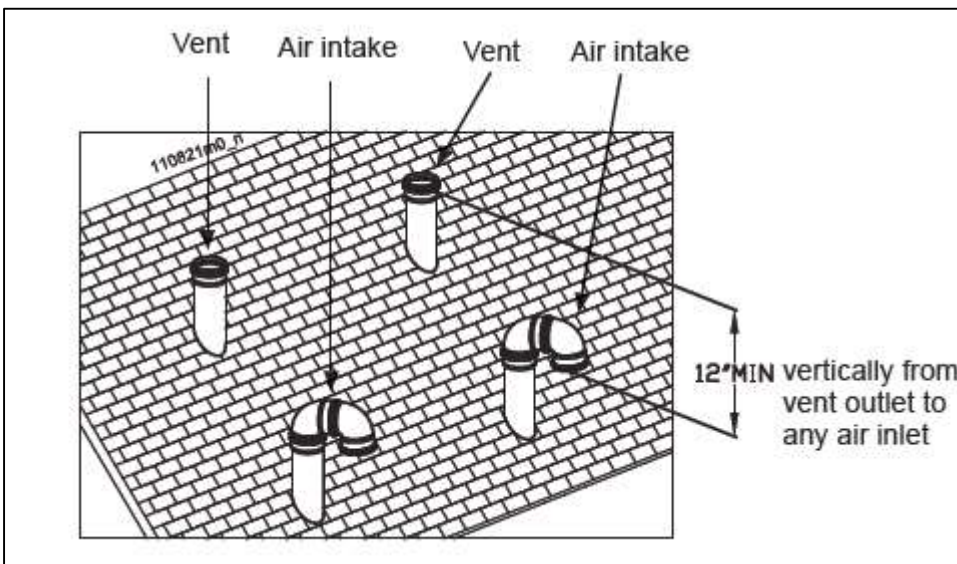

Figure 11.25
When two (2) or more direct vent appliances are vented near each other, each appliance must be individually vented (see figure 11.25, 11.28 or 11.29) or common vented (see Chapter 12). It is important that vent terminations be installed as shown to avoid recirculation of flue gases.